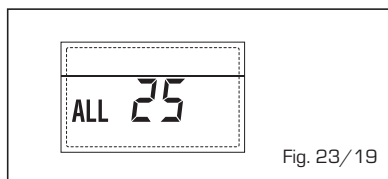

Fig. 23/19
**- NUMBER OF BOARD CONNECTED ERROR "ALL 29" (fig. 23/u)**